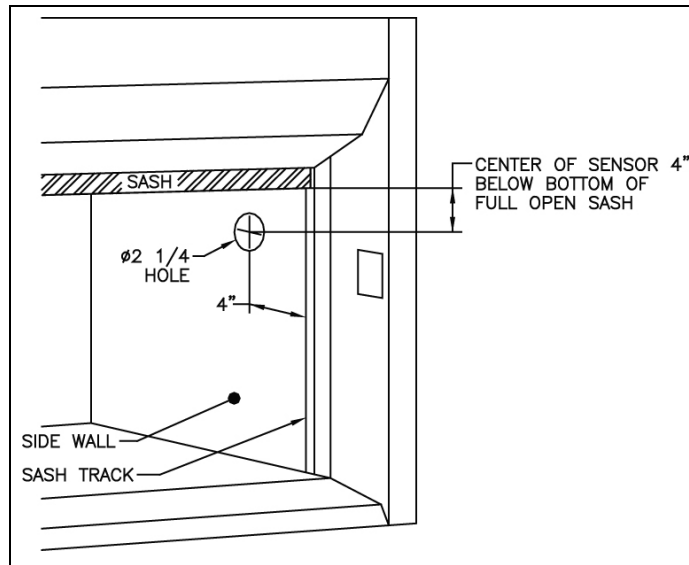

Figure 2: Mounting Flange Location
- Step 2: Determine MOUNTING FLANGE location. Use Figure 2 as a guide.